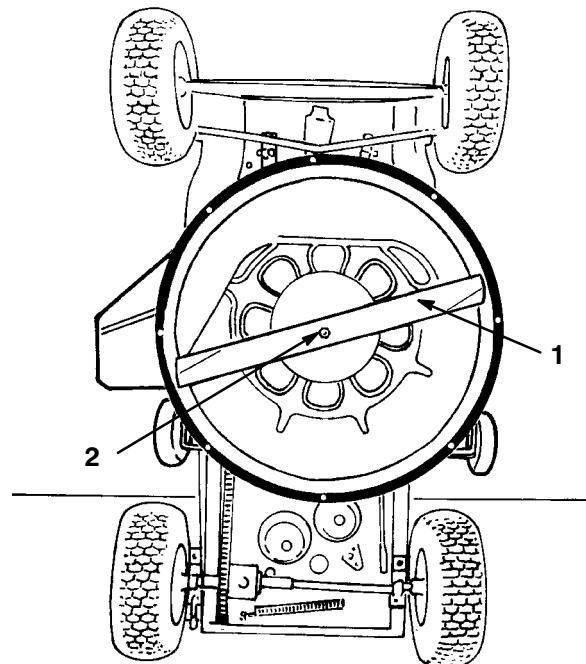

Figure 22
6. Grasp end of blade using a rag or thickly padded glove; then remove blade bolt, washer and blade (Fig. 22).
9. In sequence, reinstall blade, washer and blade bolt (Fig. 22). Tighten blade bolt to 45–60 ft-lb (61–81 Nm).